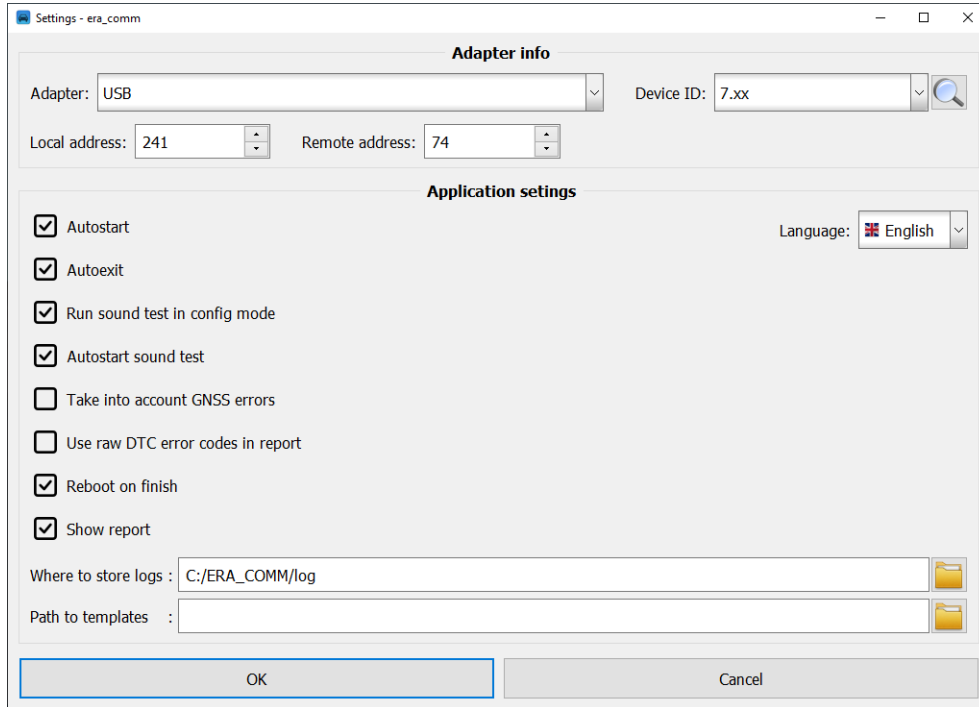

Figure 2 – Program settings window
- open Settings (Figure 2), in the main window (Figure 4);